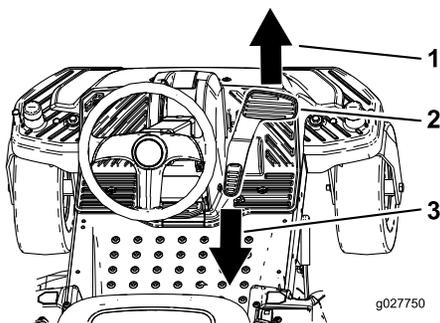

Figure 14
3. Place your foot onto the traction-control pedal and slowly press the top of the pedal to go forward, or press on the bottom of the pedal to move backward (Figure 14).